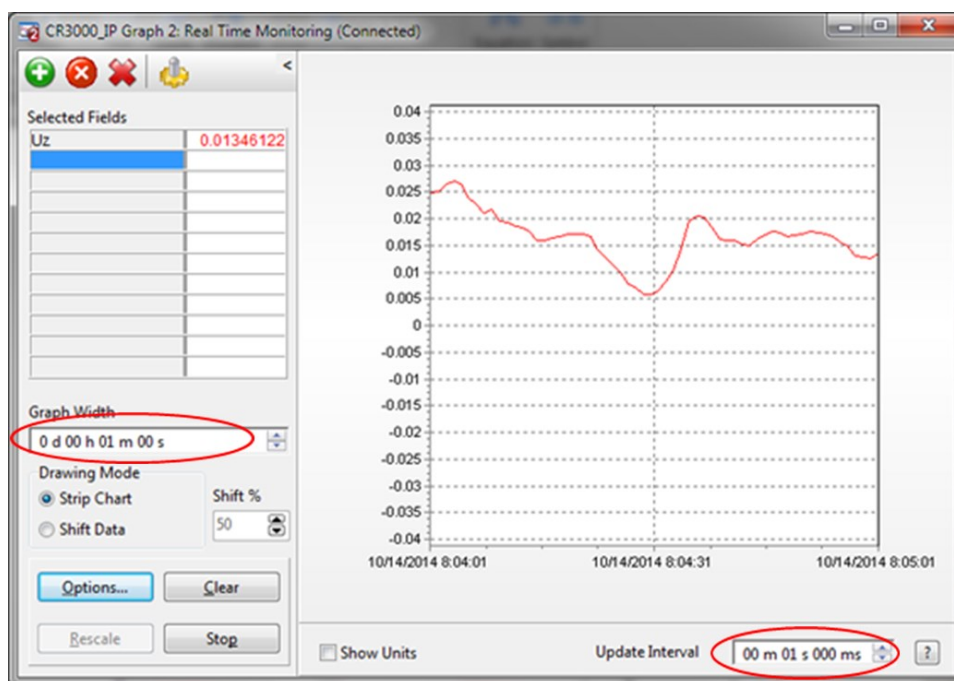

Figure 8-5. CSAT3BH real-time data with 1 sec update and u_z wind component graphed
- b. On the second graph, add the u_z wind component and set the y limits from -0.04 to 0.04 as shown in Figure 8-5 (p. 87).